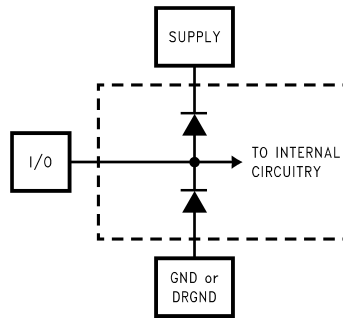

Figure 2.
- (1) The inputs are protected as shown below. Input voltage magnitudes above  $V_A$  or below GND will not damage this device, provided current is limited, see Note 4 in the Absolute Maximum Ratings table. However, errors in the A/D conversion can occur if the input goes above  $V_A$  or below GND by more than 100 mV. As an example, if  $V_A$  is 4.75V, the full-scale input voltage must be ≤4.85V to ensure accurate conversions (see Figure 2).
- (2) To guarantee accuracy, it is required that  $|V_A - V_D| \leq 100$  mV and separate bypass capacitors are used at each power supply pin.
- (3) Typical figures are at  $T_A = T_J = 25^\circ C$ , and represent most likely parametric norms. Test limits are guaranteed to AOQL (Average Outgoing Quality Level).
- (4) Integral Non Linearity is defined as the deviation of the analog value, expressed in LSBs, from the straight line that passes through positive and negative full-scale.
- The inputs are protected as shown below. Input voltage magnitudes above  $V_A$  or below GND will not damage this device, provided current is limited, see Note 4 in the Absolute Maximum Ratings table. However, errors in the A/D conversion can occur if the input goes above  $V_A$  or below GND by more than 100 mV. As an example, if  $V_A$  is 4.75V, the full-scale input voltage must be  $\leq 4.85V$  to ensure accurate conversions (see Figure 2).
- (1) The inputs are protected as shown below. Input voltage magnitudes above  $V_A$  or below GND will not damage this device, provided current is limited, see Note 4 in the Absolute Maximum Ratings table. However, errors in the A/D conversion can occur if the input goes above  $V_A$  or below GND by more than 100 mV. As an example, if  $V_A$  is 4.75V, the full-scale input voltage must be  $\leq 4.85V$  to ensure accurate conversions (see Figure 2).
- (3) With the test condition for  $V_{REF} = +2.0V$  (4VP-P differential input), the 12-bit LSB is 977  $\mu V$ .
- (4) Timing specifications are tested at TTL logic levels,  $V_{IL} = 0.4V$  for a falling edge and  $V_{IH} = 2.4V$  for a rising edge.
- (5) Typical figures are at  $T_A = T_J = 25^\circ C$ , and represent most likely parametric norms. Test limits are guaranteed to AOQL (Average Outgoing Quality Level).